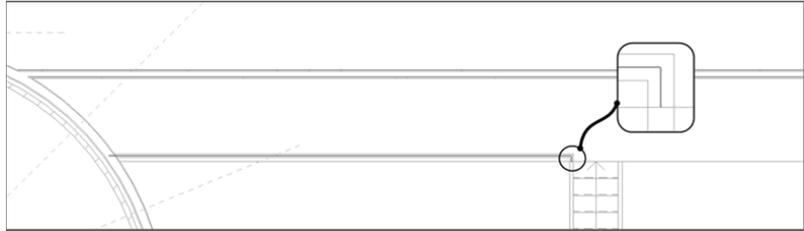

FIGURE 10.72: Adding the railing. This process is becoming old hat!
4. Sketch a railing that is 4" (100 mm) in from the face of the landing, as shown in Figure 10.72.